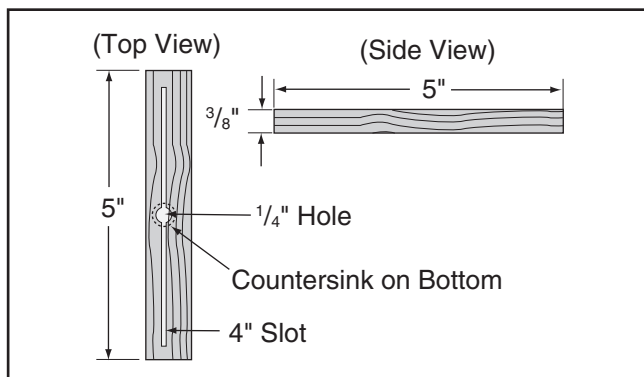

Figure 70. Miter bar pattern.
5. Cut a miter bar approximately 5" long that will fit in table miter slot, as shown in **Figure 70**.